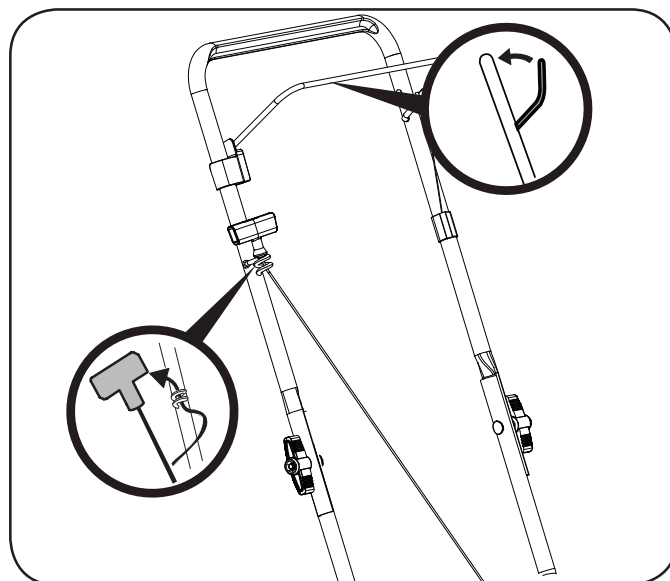

Figure 5
1. Hold the blade control handle against the upper handle (Figure 5).
2. Slowly pull starter rope handle from engine and slip starter rope into the rope guide (Figure 5).